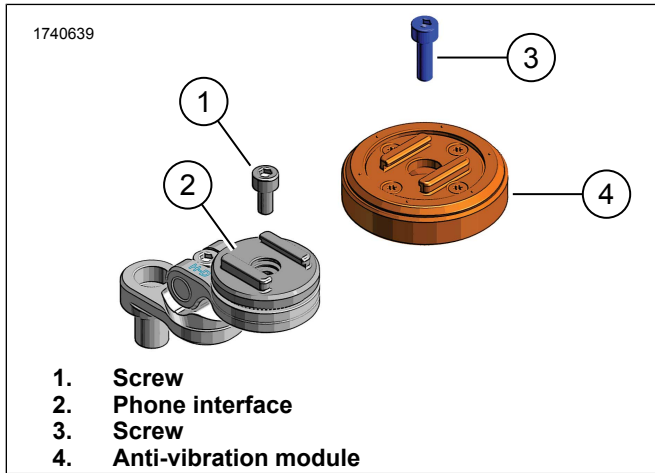

Figure 2. Install Anti-Vibration Module
1. Figure 2 Remove screw (1) and phone interface (2) from phone mount.
1. Figure 2 Install anti-vibration module (4).
3. Install **new** screw (3). Tighten.